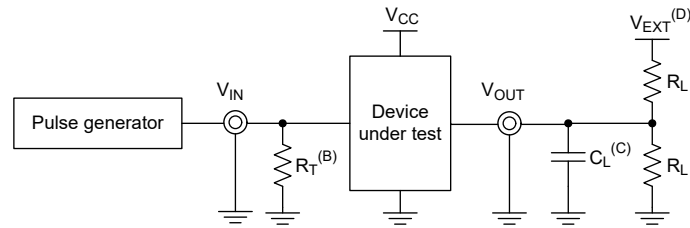

图 7-1. Load Circuit
2. Waveform 1 in 图 7-3 is for an output with internal such that the output is high, except when OE is high (see 图 7-1). Waveform 2 in 图 7-3 is for an output with conditions such that the output is low, except when OE is high.